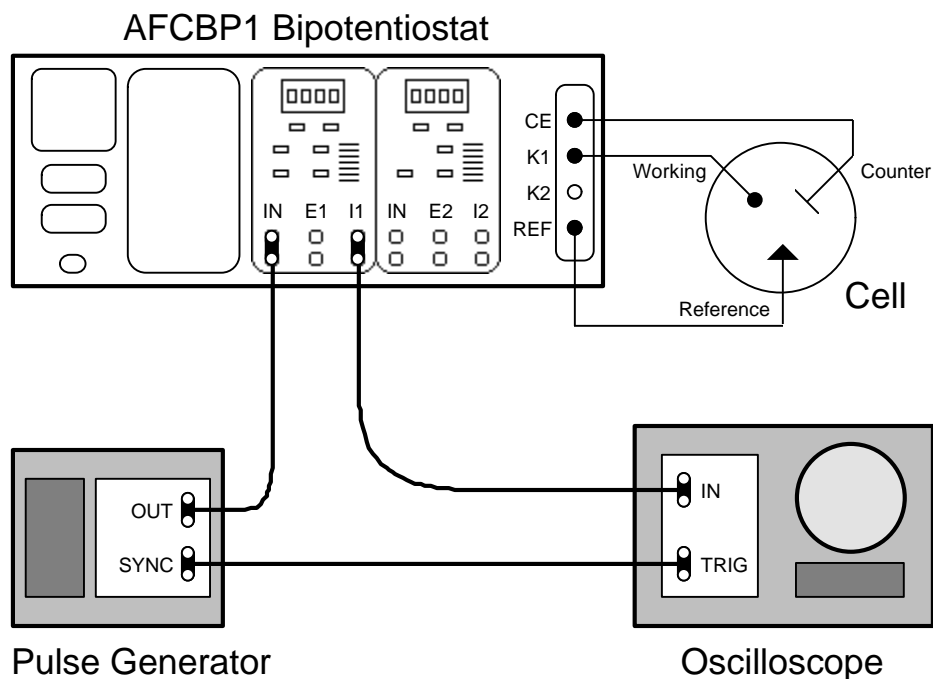

FIGURE 12: CABLE CONNECTIONS FOR CHRONOAMPEROMETRY
While the AFCBP1 has no built in circuitry for generating voltage pulses, it is possible to connect a third-party pulse generator to a potential input on the AFCBP1. With the instrument set in "potentiostat" mode, pulses from the external pulse generator are applied to the working electrode, and the current at this electrode is presented by the AFCBP1 for recording by either a YT Recorder or digital oscilloscope. If the only recorder available is an XY Recorder, the Sweep Generator on the AFCBP1 can be made to function as a time base for the X-axis on the recorder. Figure 12 illustrates how the AFCBP1, a pulse generator, and a digital oscilloscope can be used for chronoamperometry.
The types of controlled current experiments that can be performed include (1) constant current chronopotentiometry, (2) current ramp chronopotentiometry, (3) current reversal chronopotentiometry, (4) cyclic chronopotentiometry, and (5) so-called "diffusion layer" titrations using a rotated ring-disk electrode (RRDE). To perform a chronopotentiometric experiment, the AFCBP1 should be configured as shown in Figure 12, except that the "E1" output should be connected to the recording device. The pulse generator may or may not be required.